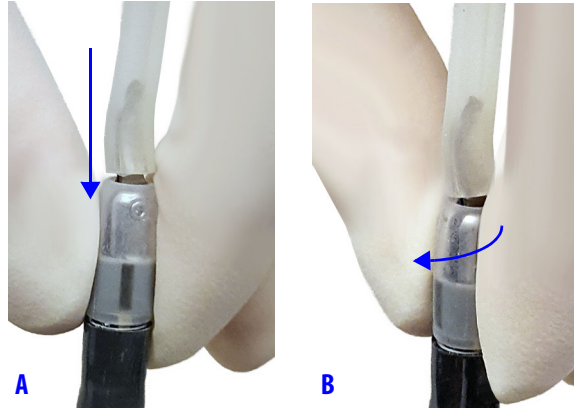

Figure 5.7 Push tip cover down (A), then rotate $\frac{1}{4}$ turn clockwise (B)
- With one hand grasping the tip cover and the other hand stabilizing the instrument joints, push the tip cover down until it is flush with instrument sheath and rotate $\frac{1}{4}$ turn clockwise until there is a tactile click to lock in place (Figure 5.7 A and B).